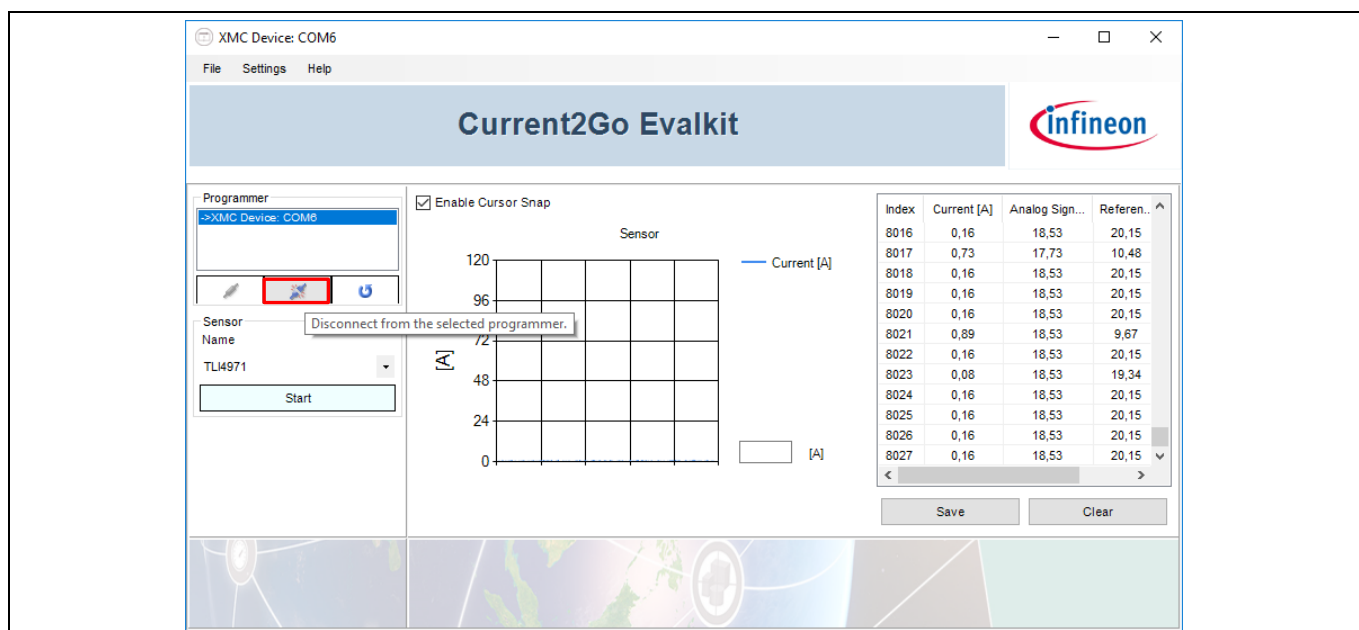

Figure 18 XMC Device: COM6 window: Disconnection Button
- Finally, click with the left mouse button on the symbol that is marked with a red color box in Figure 18 to disconnect the MS2Go kit from the PC.